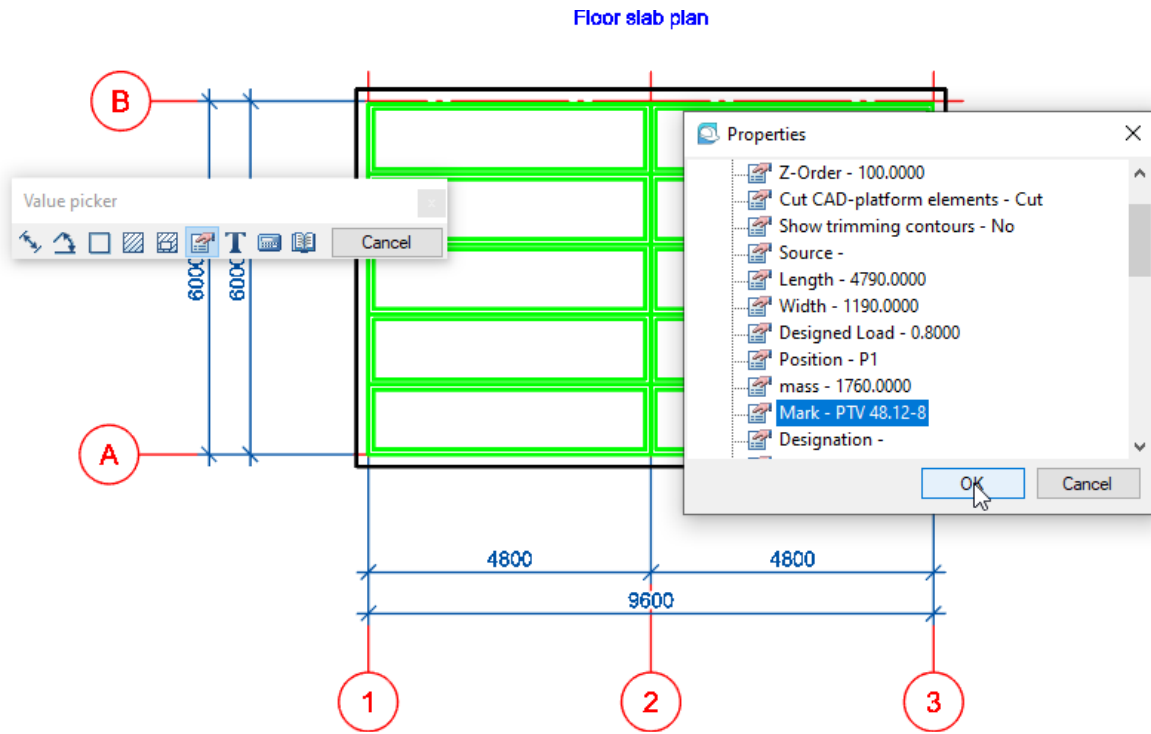
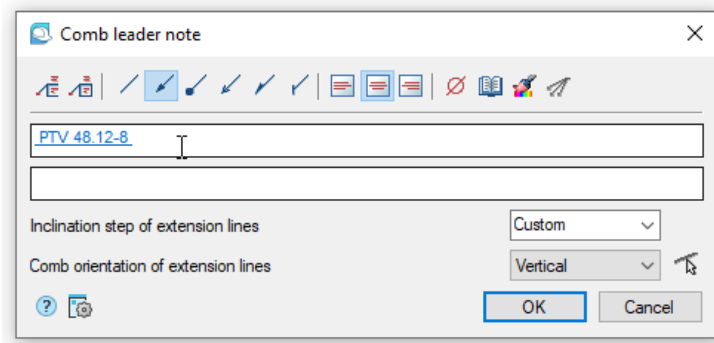

Fig.11.Properties of the parametric object FB blocks
Fig.12. Automatic filling of the leader line with the selected property of the parametric object
The plan of the foundation blocks (FB) is made with the parametric objects of the Construction (*Beds and Bases* → *Beds*). In the comb leader note, specify the mark of the blocks used. To automate the process, use the context menu: *Pick from drawing* → *Value picker* → *Take from property* (indicate the FB block in the drawing) → *Mark* (select this parameter from the block properties) - Fig. 11. The value of the mark will appear in the leader line (Fig. 12).